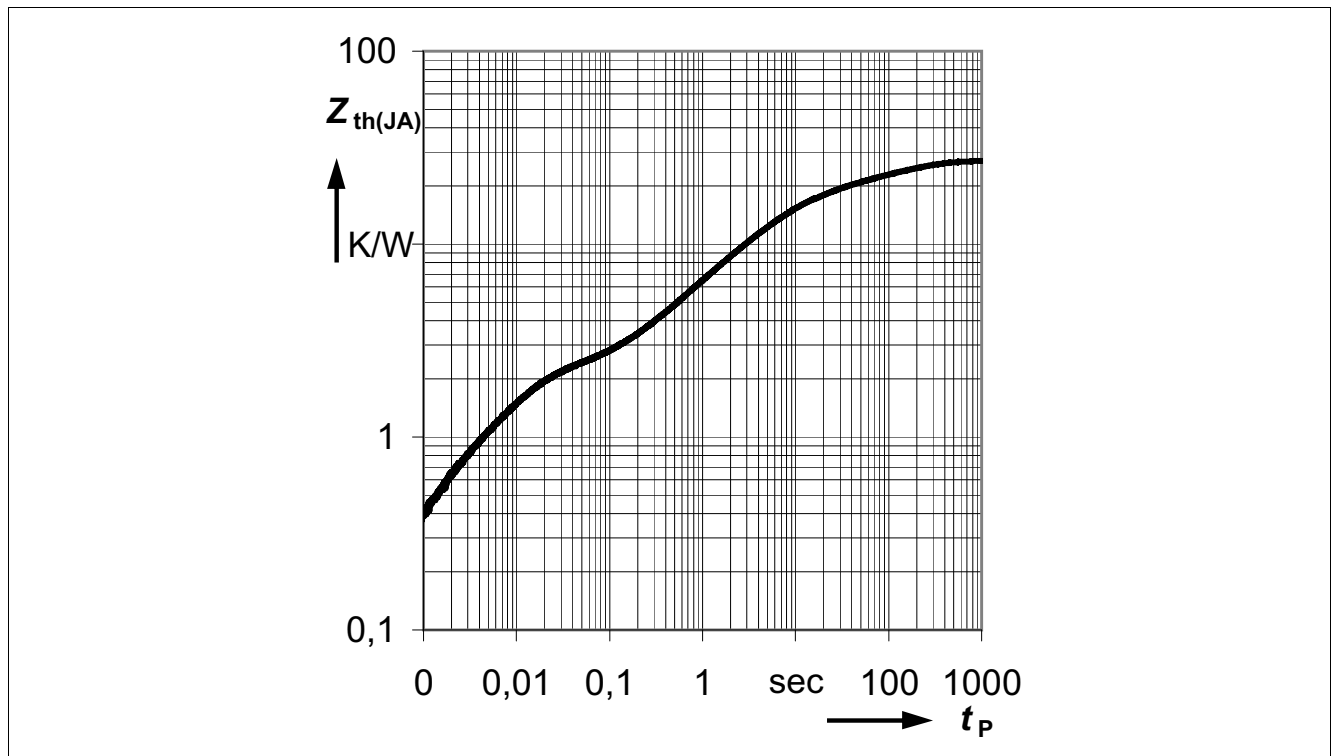

Figure 4 Transient Thermal Impedance $Z_{th(JA)}=f(t_p)$ ⁴⁾
- 4) Specified R_{thja} value and **Figure 4** are according JESD51_7 at natural convection on FR4 2s2p board. The BTS50070-1EGA was measured on a 76.2 x 114.3 x 1.6 mm board with 2 inner copper layers (2 x 70 μ m Cu, 2 x 35 μ m Cu) applying power losses of 1.4W at the channel. According to JESD51-5 a thermal via array under the exposed pad contacted the first inner copper layer. $T_a = 25\text{ °C}$.
Figure 4 shows the typical transient thermal impedance of BTS50070-1EGA.